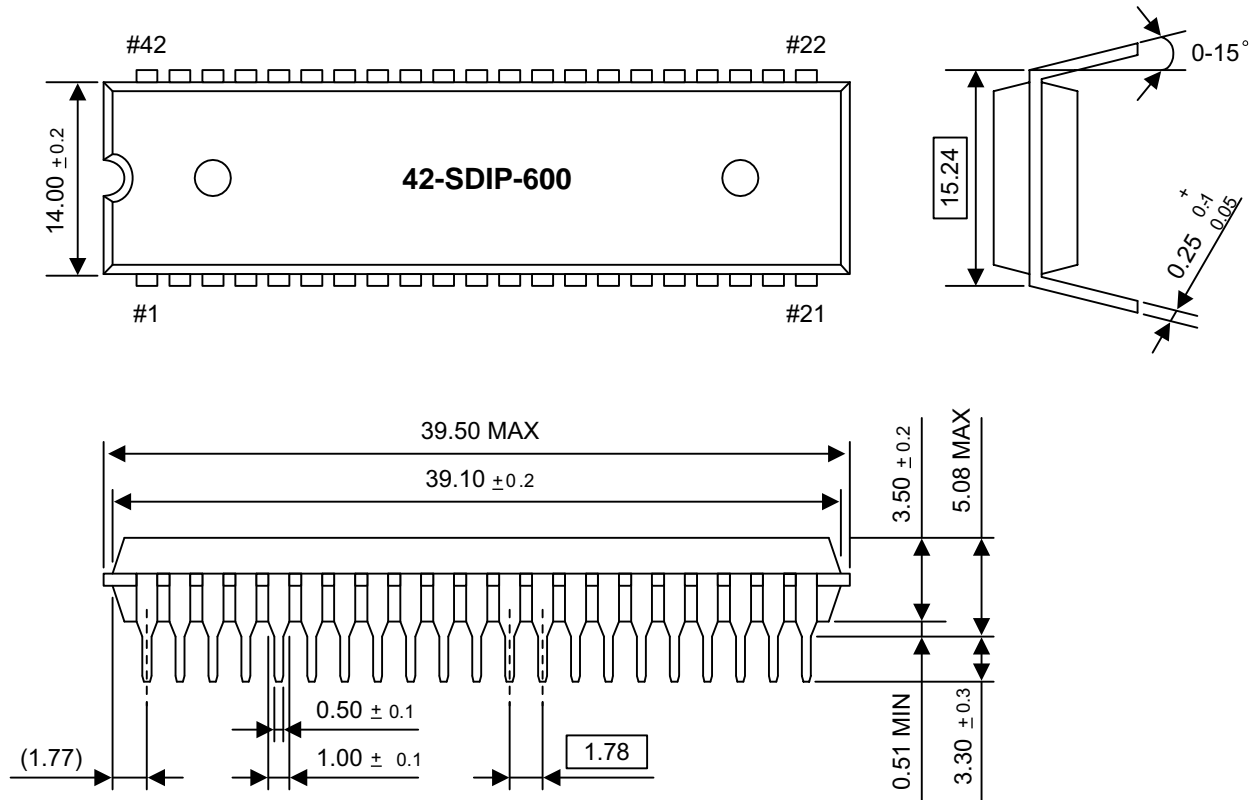

Figure 133. Package Dimensions, 42-pin SDIP Package
A mechanical drawing of the 42-pin SDIP package is shown in Figure 133.
► **Note:** Dimensions in Figure 133 are expressed in millimeters.